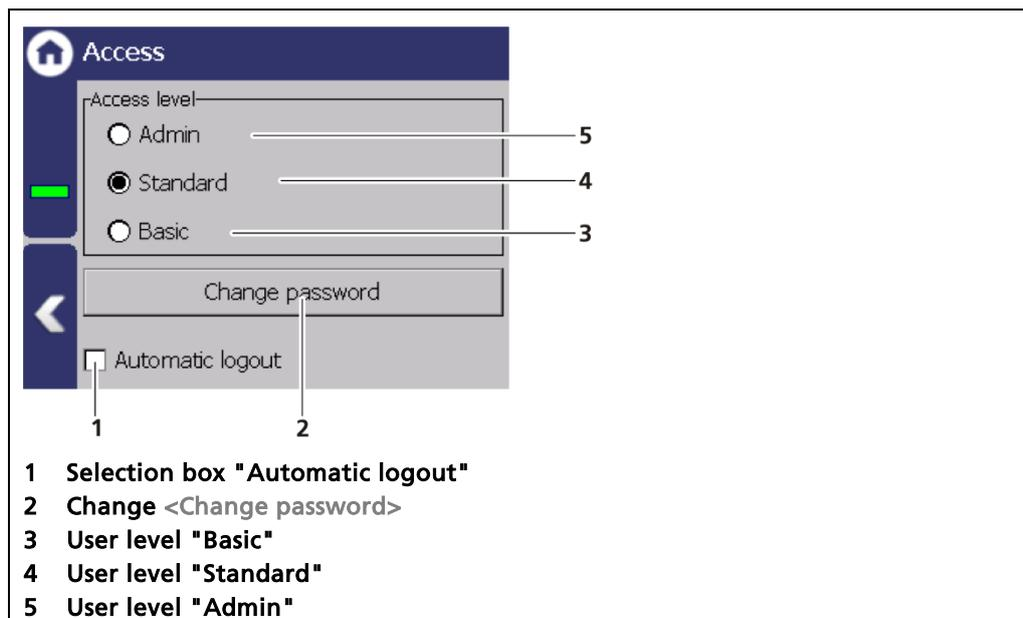
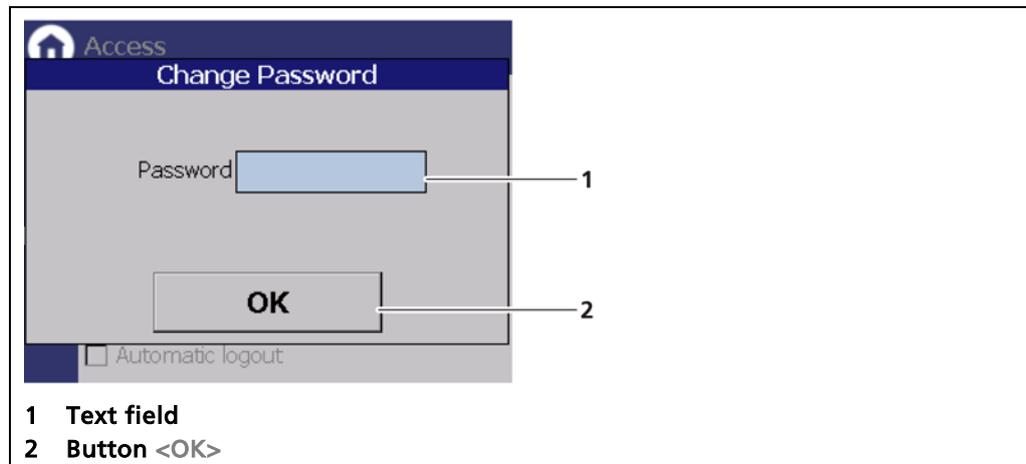

Fig. 42 Menu Access
Fig. 43 Change password
To set or change a password, select "Standard" (Fig. 42, item 4) and click on <Change password> (Fig. 43, item 2) to open the input field.
1. Click on the text field (Fig. 43, item 1) to open the input field.
4. Click <OK> (Fig. 43, item 2) to confirm.